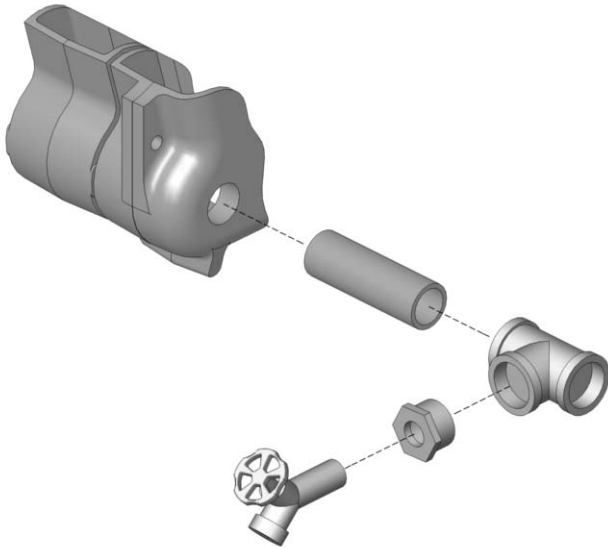
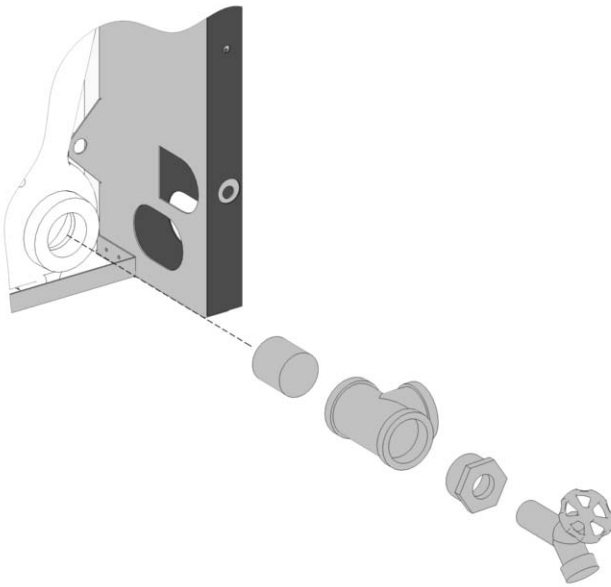

Figure 3.4: Recommended Near Boiler Piping for Rear Return
Figure 3.5: Optional Near Boiler Piping for Front Return
10. *Boiler Drain Valve:* Fittings are provided for mounting the boiler drain valve in the return tapping at the bottom rear of the boiler. See Figure 3.4. It is recommended that the boiler return be piped to the rear of the block, however for a front return locations see Figure 3.5.